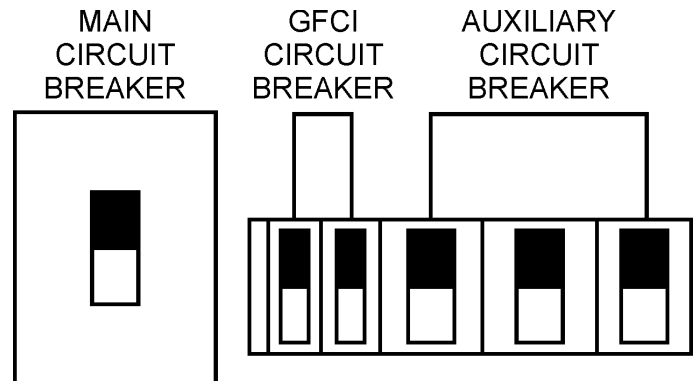

Figure 55. Main, Aux. and GFCI Circuit Breakers (ON)
19. Place the **main**, **GFCI**, and **aux.** circuit breakers in the **ON** position (Figure 55).